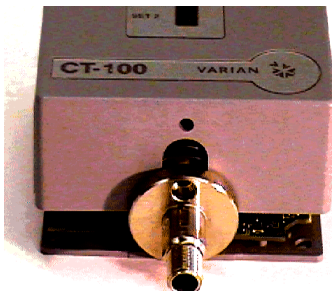

Figure 17 Positioning the Sensor
8. Rotate the sensor so the Allen screw anchor hole is at the top of the assembly and is visible through the hole in the cover as shown in Figure 17.